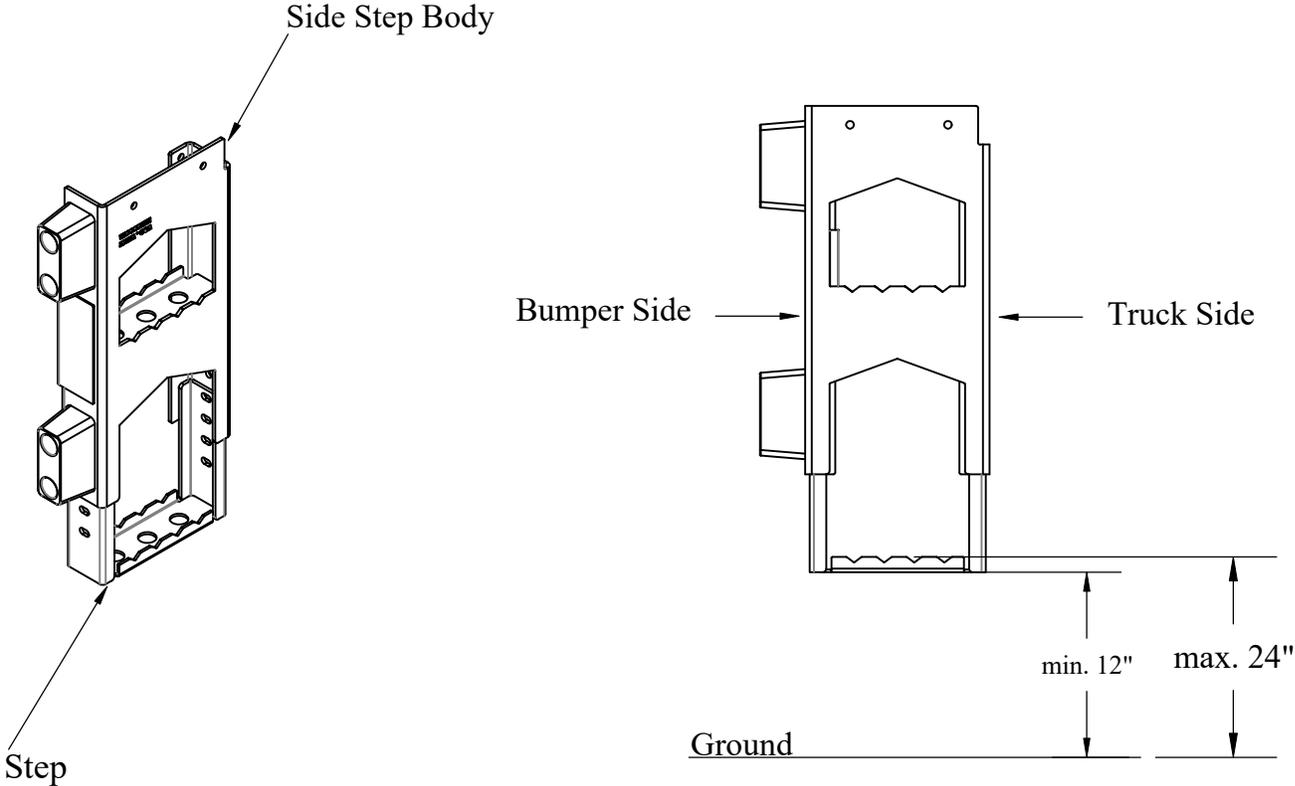

Figure 21: Side Steps Height Adjustment.
- 1. Adjust side step height to desired position (Figure 21).